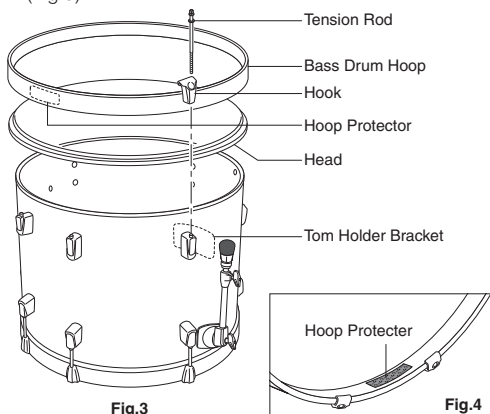

Fig.3
3. Turn the Shell over to the batter side and place the other Head and Bass Drum Hoop on the Shell. The batter side Bass Drum Hoop has a Hoop Protector (Fig.4) where the Pedal is to be attached. Position the Bass Drum Hoop so that the Hoop Protector is on the opposite side of the Tom Holder Bracket. Attach the Tension Rods/Hooks in the same way as the front side (Fig.3).